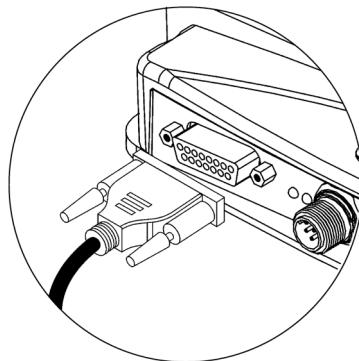

Figure 2-1: Control Pad Connection
1. Attach the Control Pad to the In-Sight sensor's **CONTROL PAD** connector (Figure 2-1).